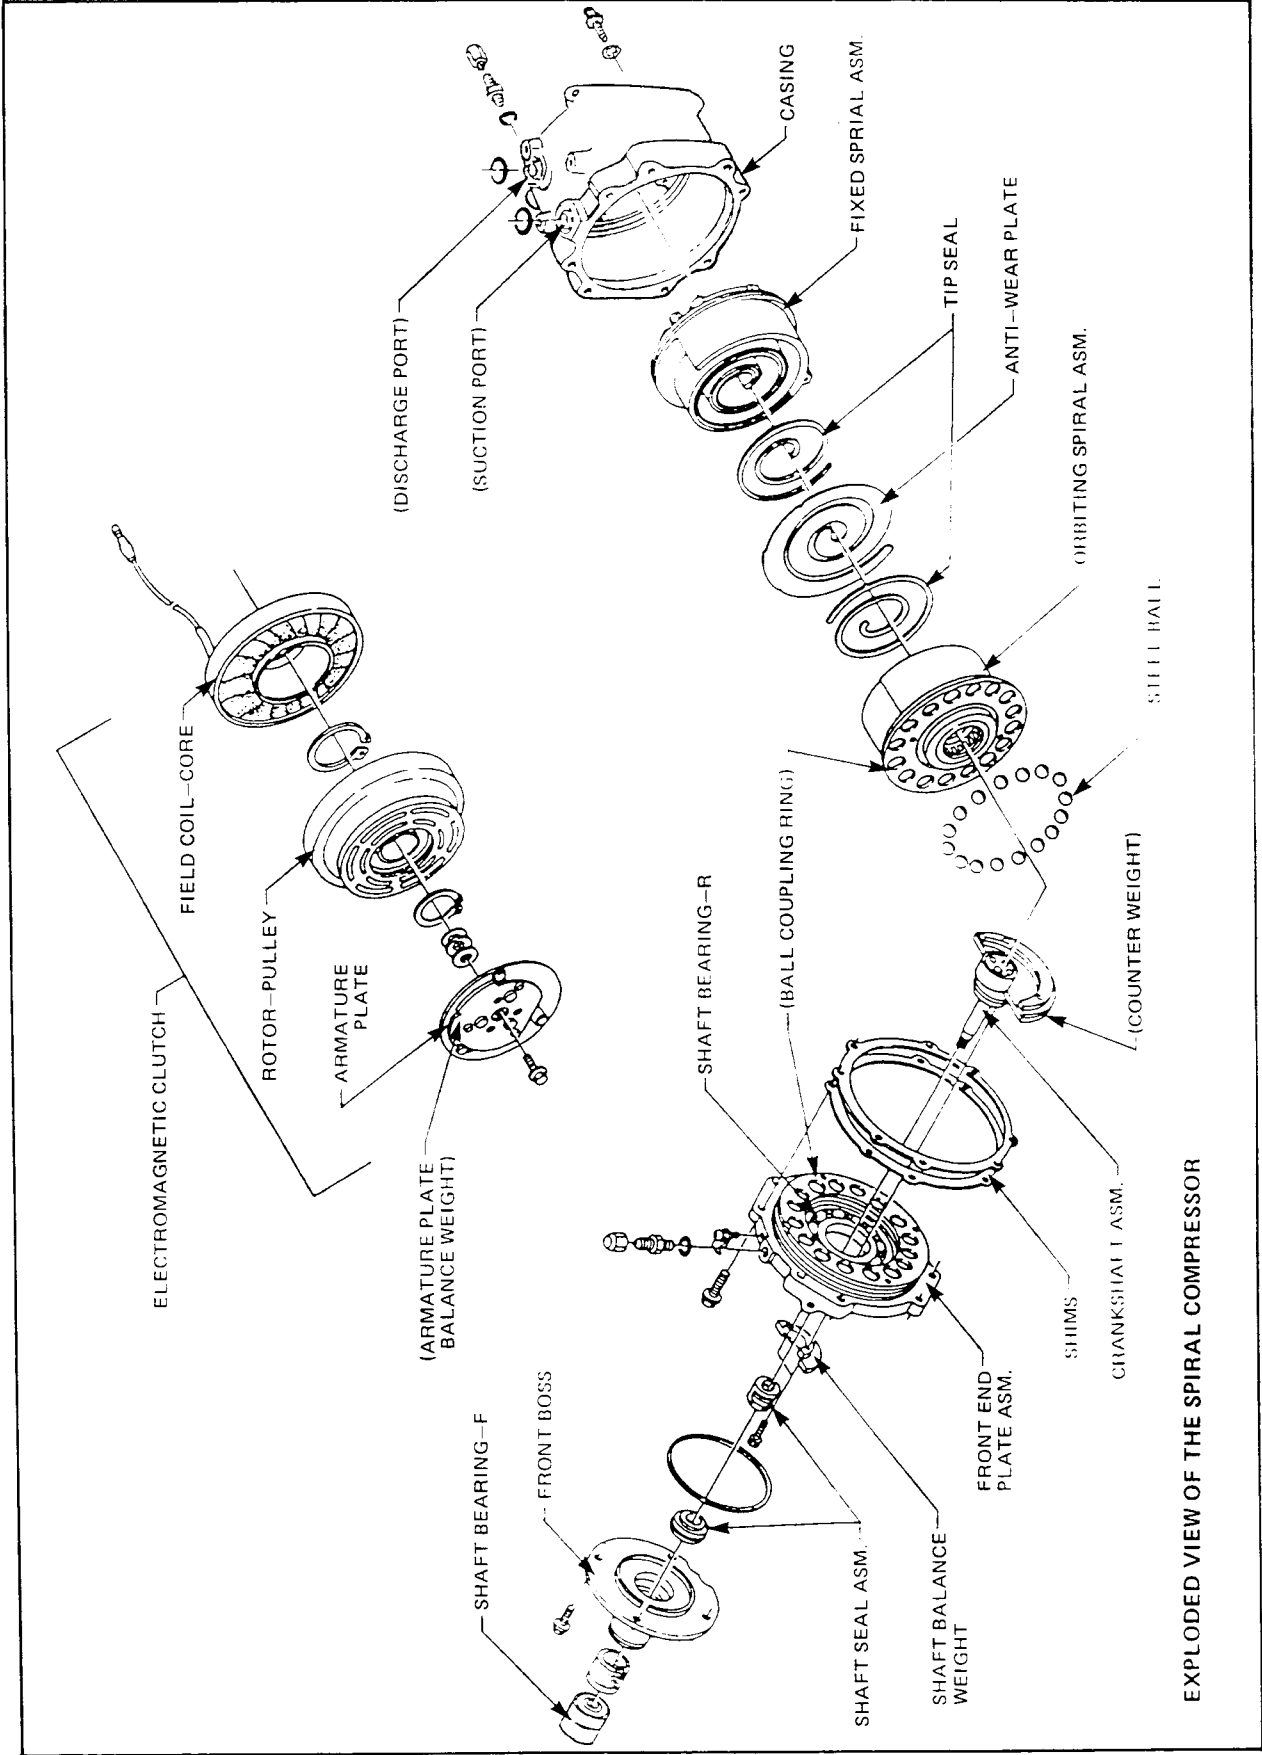

Figure 2B-12
NOTE: On 6 cylinder engines, it will be necessary to release the tension from the compressor drive belt adjusting bolt, illustrated in Fig. 2B-9.
1. Torque mounting bolts as shown in Figs. 2B-9 or 2B-10.